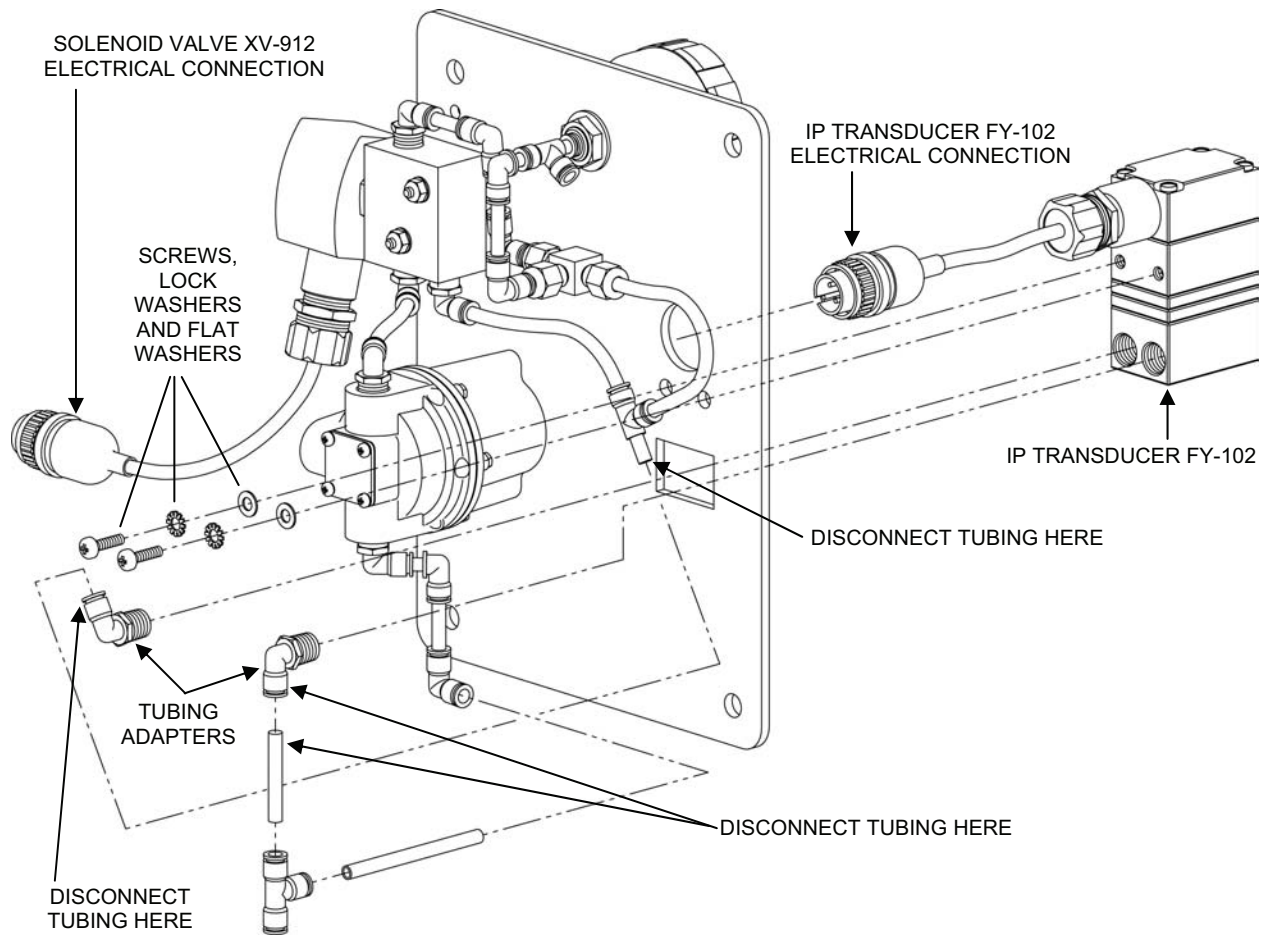

Figure 4. IP Transducer FY-102.
1. Remove the IP Transducer FY-102 from the feed flow control panel assembly as follows (See Figure 4):